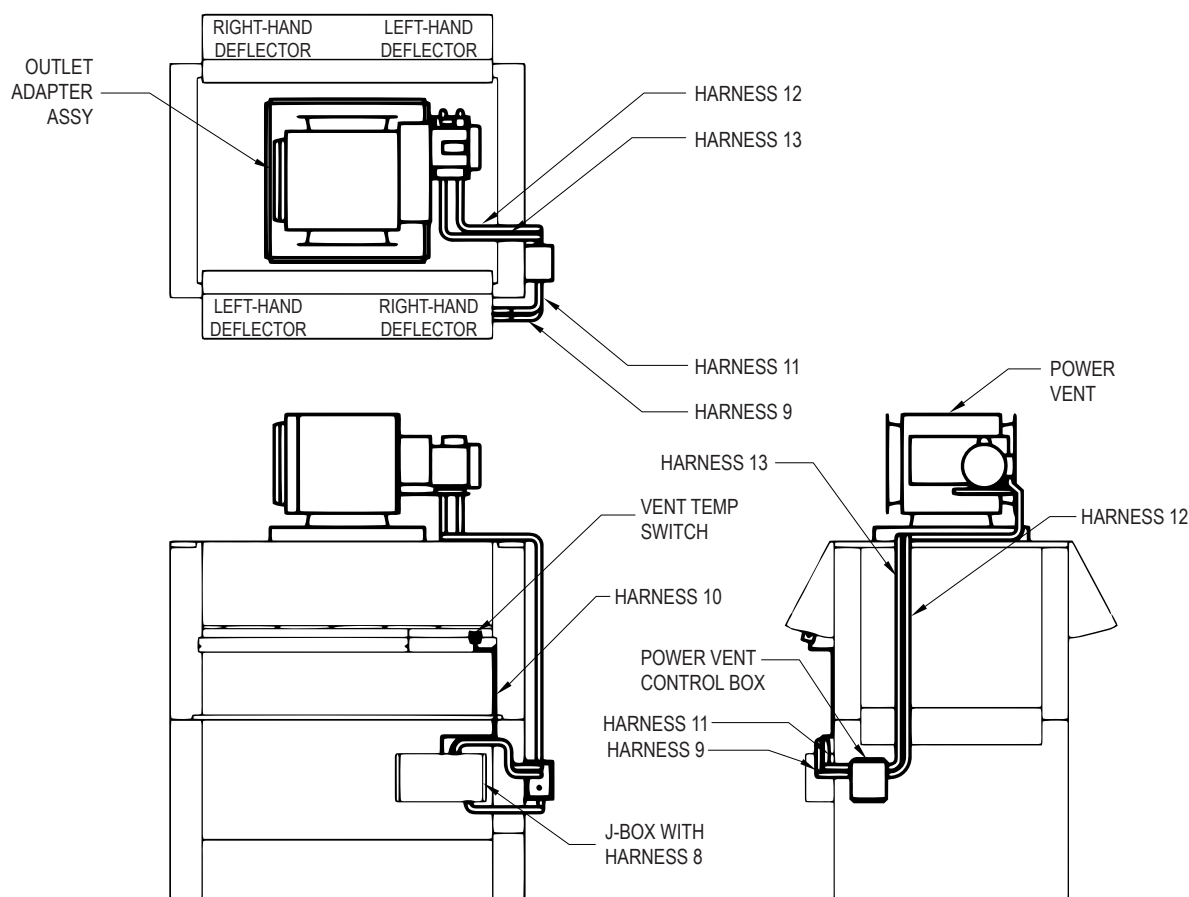
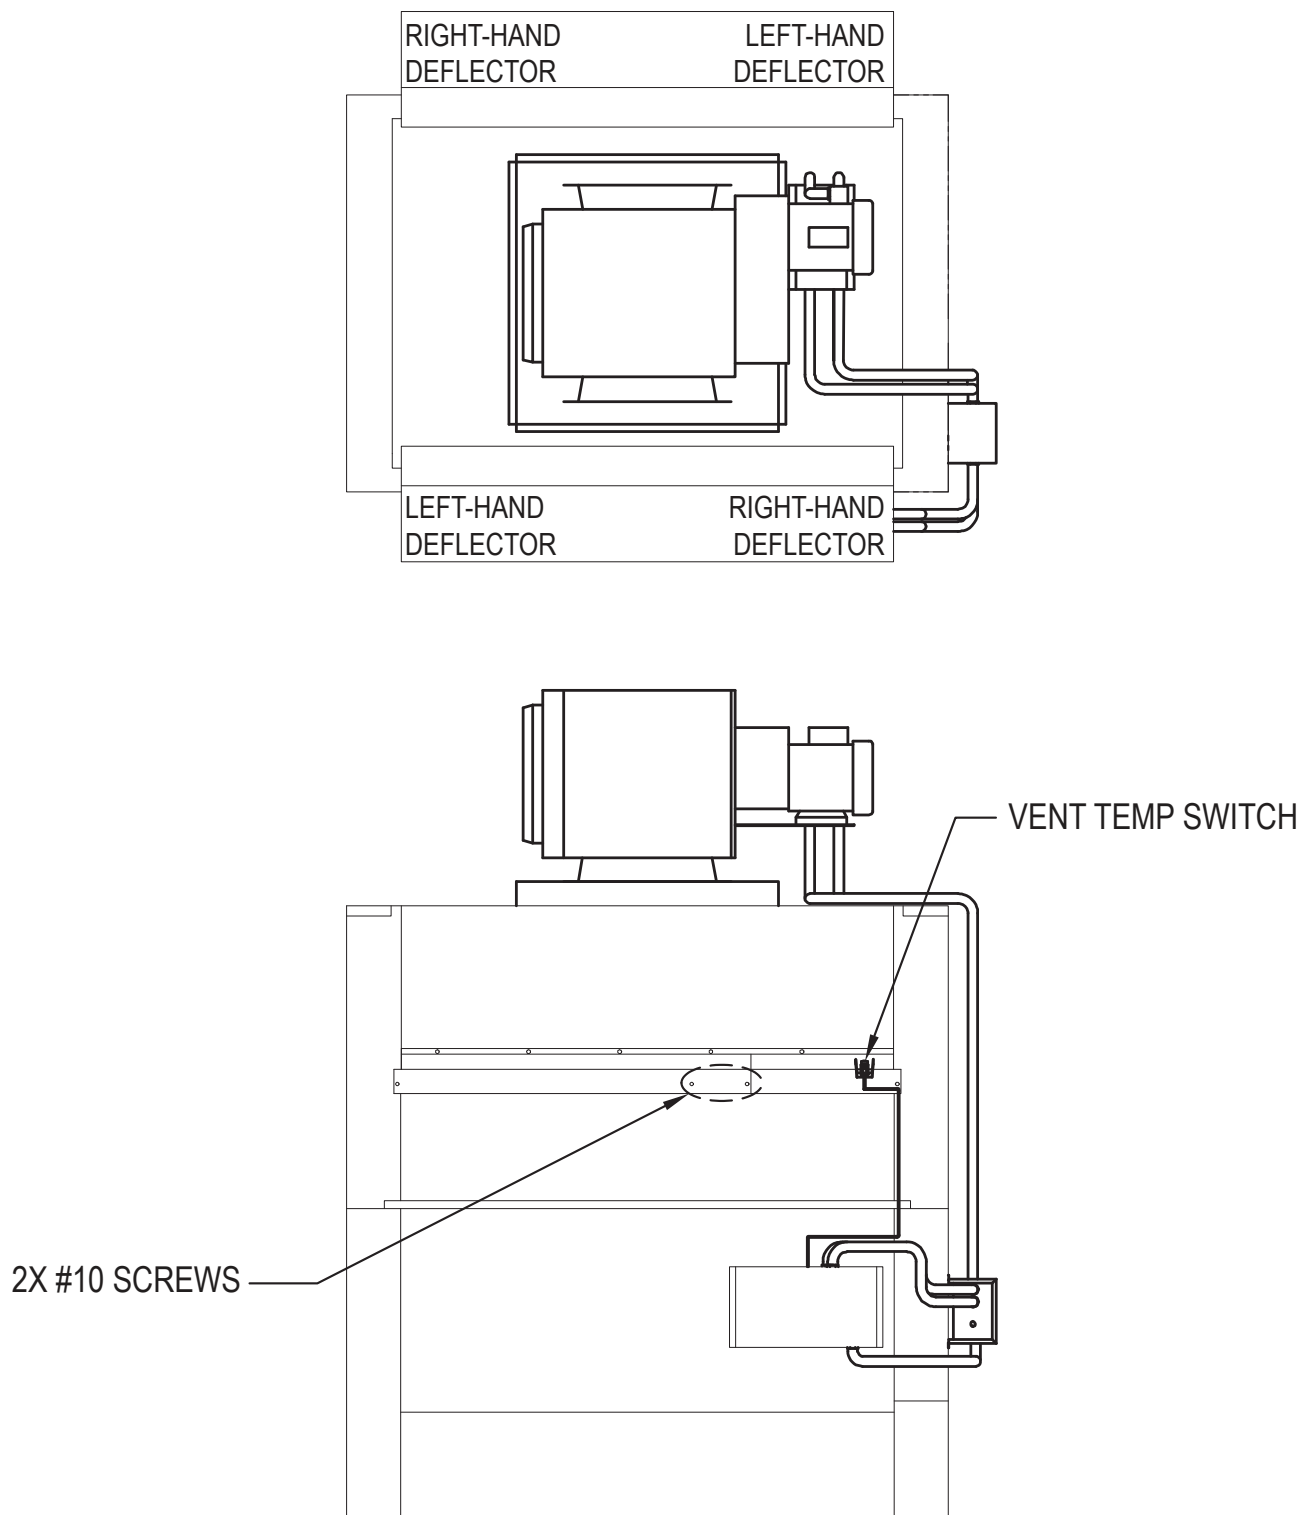
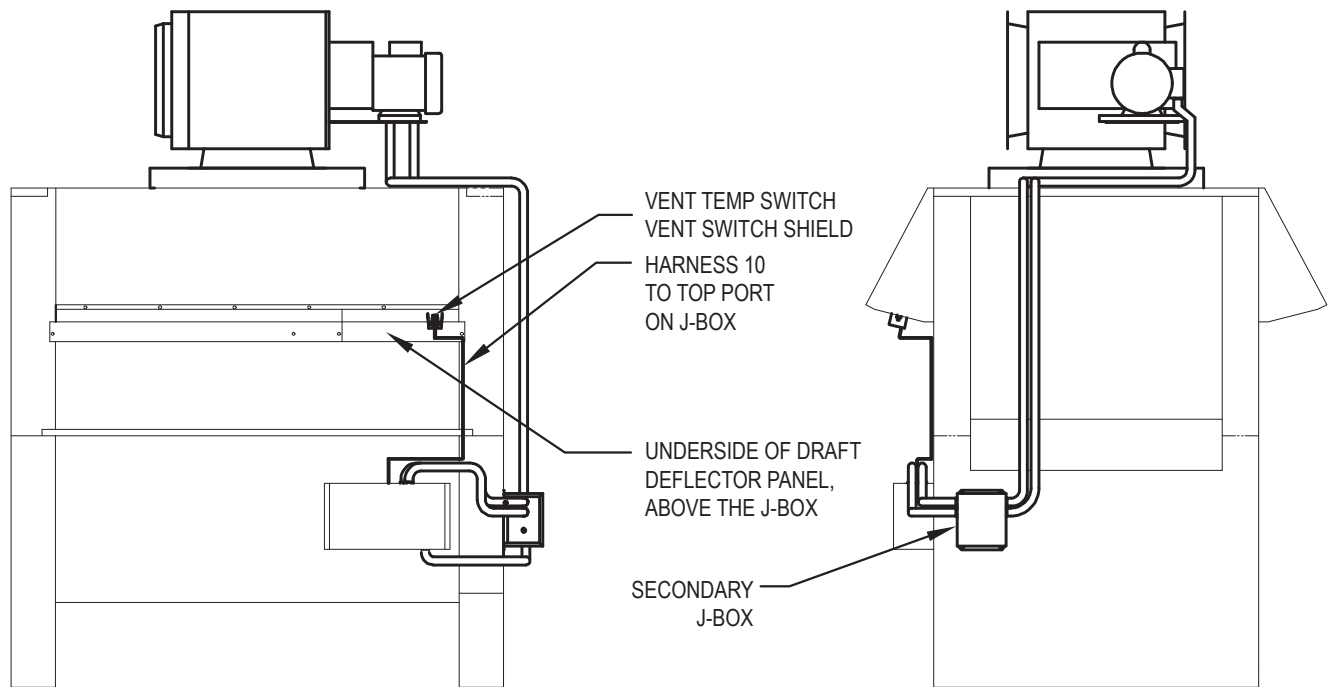

Figure 14. Orientation, Models 2100-4001
Figure 15. Draft Deflector Panels, Models 2100-4001
Figure 16. Vent Temp Switch
3. Mount the power vent (PV) control box on the right-hand end of the unit, near the J-box, using the 4x #10 screws provided. See the orientation drawing, **Figure 14**.
4. Install the draft deflector panels on the underside of the angled "wings" of the drafthood, using a pair of #10 screws to hold each in place and an additional pair of #10 screws to secure them together in the middle. See **Figure 14** and **Figure 15**.
5. Install the vent temperature switch provided in the hole in the "right-hand" draft deflector panel above the J-box. The switch fits into the hole from beneath and is secured from above by a pair of #6 screws. It is surrounded by the vent switch shield. See **Figure 14** and **Figure 16**.
7. Identify and lay out the conduit-enclosed wiring harnesses per the orientation drawing, **Figure 14**.
9. Connect the end of HARNESS 9 with the wirenut to the J-box, using the provided connector. See **Figure 14**, for recommended conduit opening.
13. Connect the loose end of HARNESS 9 to the PV control box. See **Figure 14** for recommended conduit opening.
16. Connect the end of HARNESS 11 with 2 spade connectors and 1 stripped GRN wire, and connect it to the PV control box, using the connector provided. See **Figure 14** for preferred location.
20. Connect the end of HARNESS 12 with spade connectors to the J-box, using the connector provided. See the orientation drawing, **Figure 14**, for preferred location.
24. Connect the end of HARNESS 13 with spade connectors to the J-box, using the connector provided. See the orientation drawing, **Figure 14**, for preferred location.